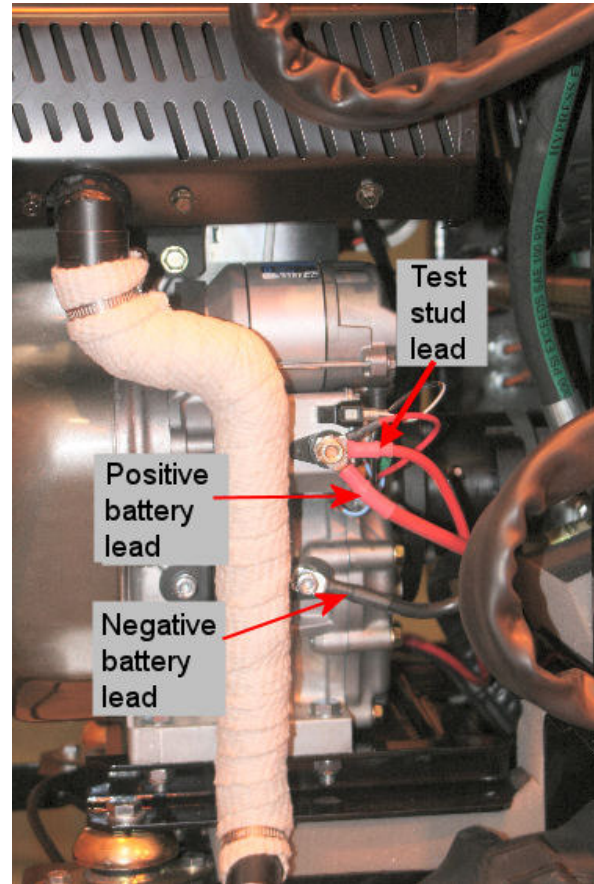

Fig 5-12 Isolate battery
1. Isolate the positive battery lead. Carefully remove the lead from the terminal (Fig 5-12) and insulate it with tape to prevent a short-circuit that would damage the battery.
2. Remove the test stud lead from the terminal (Fig 5-12).
3. Remove the negative battery lead from the bolt securing the exhaust (Fig 5-12).